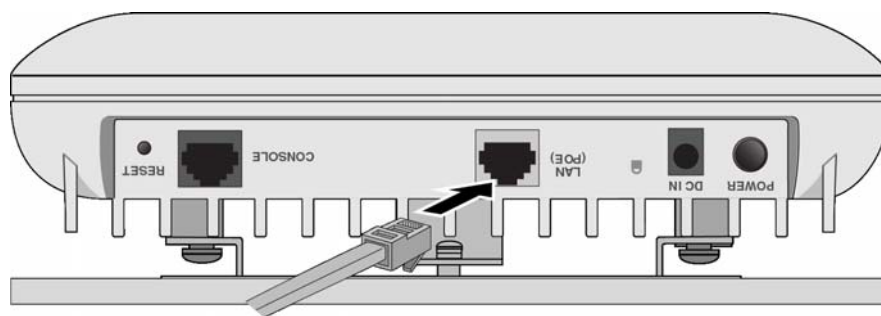

Figure 26. Connecting an Ethernet Cable to the LAN Port
1. Connect an Ethernet cable into the RJ-45 LAN port. Refer to Figure 26.